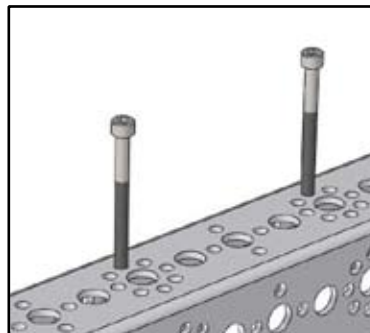

Figure A3
- 1) Set one motor mount along the top of one bottom piece of channel. Determine where you want the motor to rest – be sure to allow space for the wheel and the gears. Note that the motor mount holes align with the smaller holes on the channel and that you can use any two parallel holes in the circle (Figures A3 and A4).